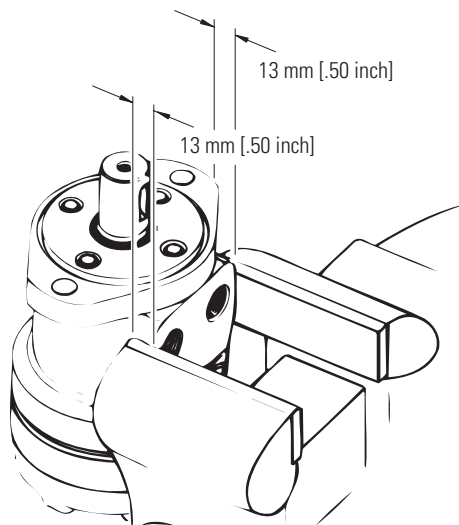

Figure 23
37. Clamp motor in vise with output shaft up, see Fig. 23.